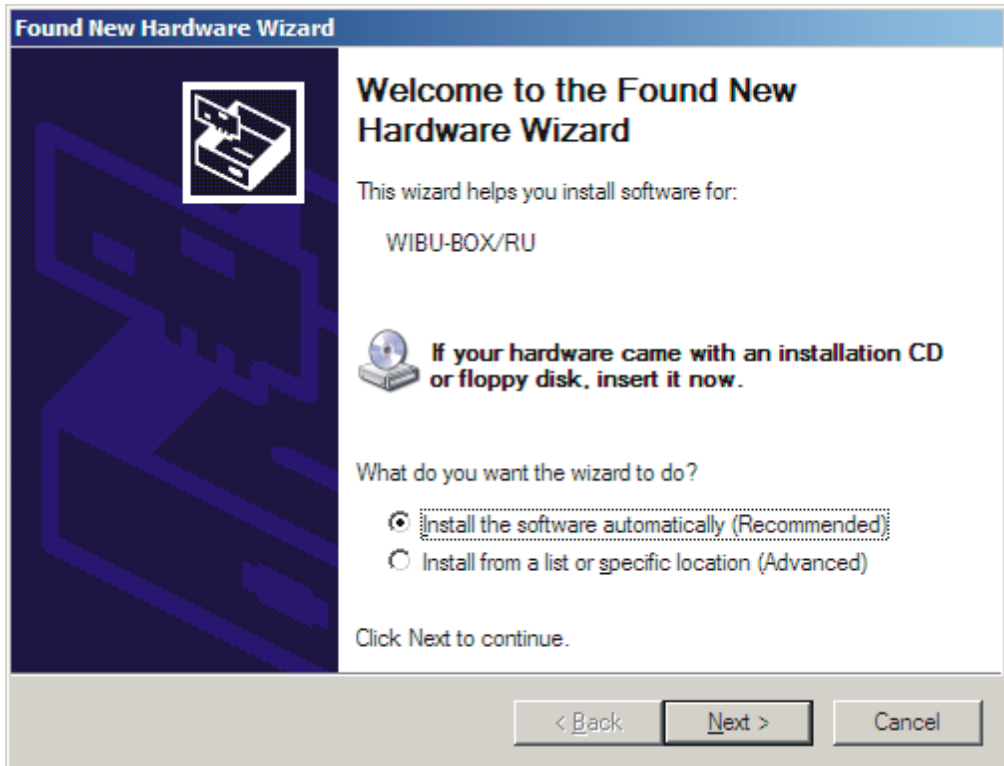

Figure B-4. Windows Found New Hardware Wizard
- Select the **Install the software automatically (Recommended)** option (see Figure B-4) (it is not necessary to insert a hardware installation CD or floppy disk).